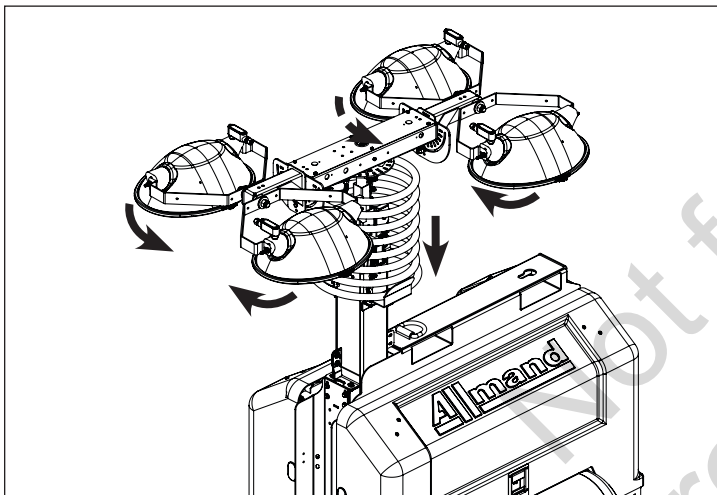

Figure 1
5. Rotate the lamp yoke so that it is in line with the light bar. Face the light fixtures toward the center of the trailer. See Figure 1.